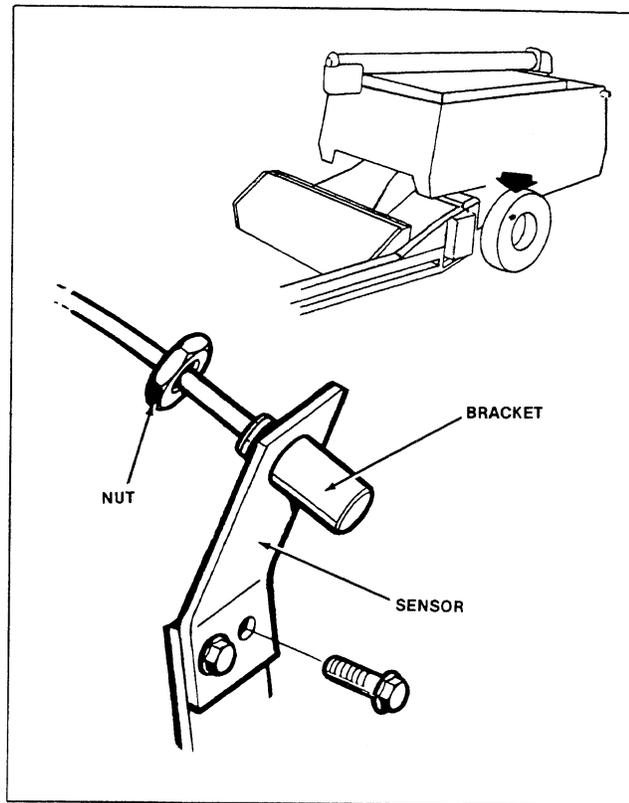

FIGURE 2-15: Ground Speed Sensor Mounting
6. Remove nut securing ground speed sensor to mounting bracket and remove sensor (Figure 2-15).